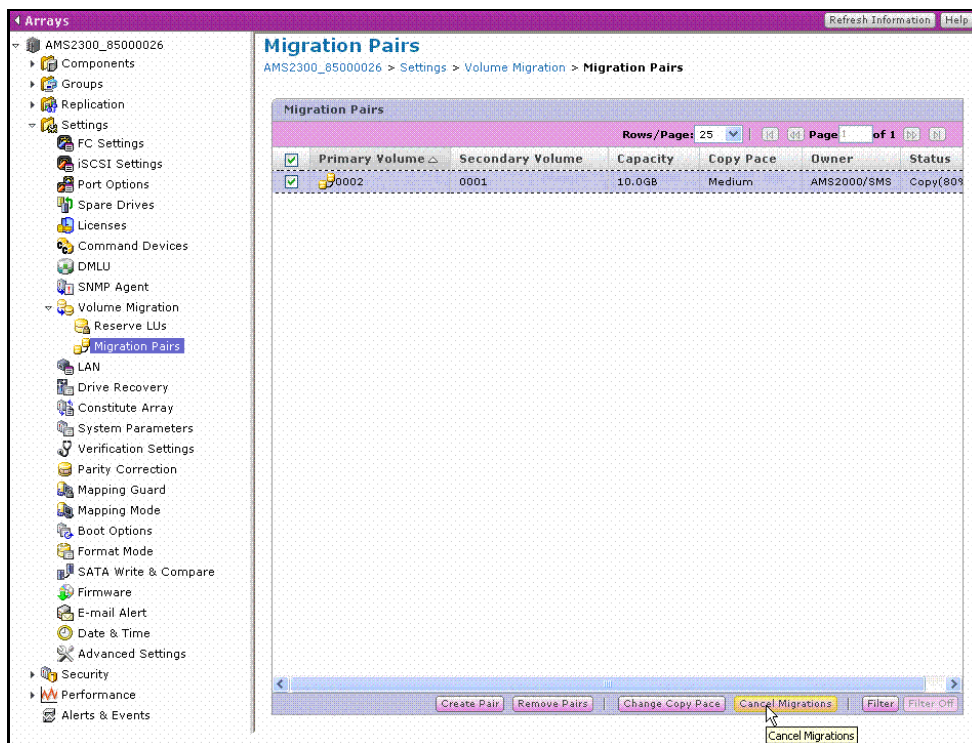

Figure 11-22: Pair Cancellation
6. Select the P-VOL you are canceling, and click **Cancel** as shown in Figure 11-22.